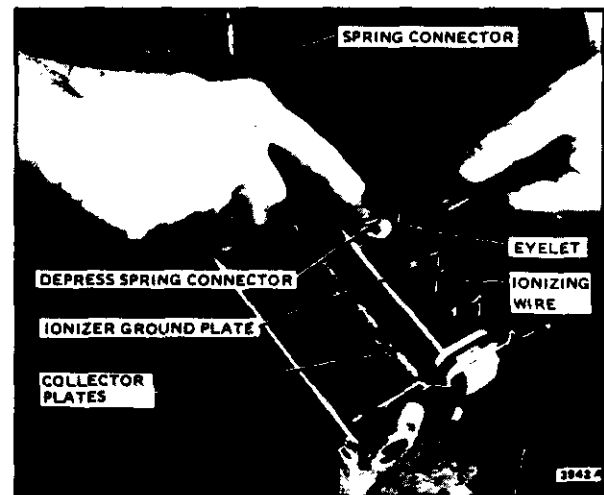

FIG. 29—INSTALL NEW IONIZING WIRE BY HOOKING EYELETS OVER SPRING CONNECTORS.
1. Hook the eyelet on one end of the wire over the spring connector on one end of the cell. See Fig. 29. Be careful to avoid damaging the spring connector or other parts of the cell.